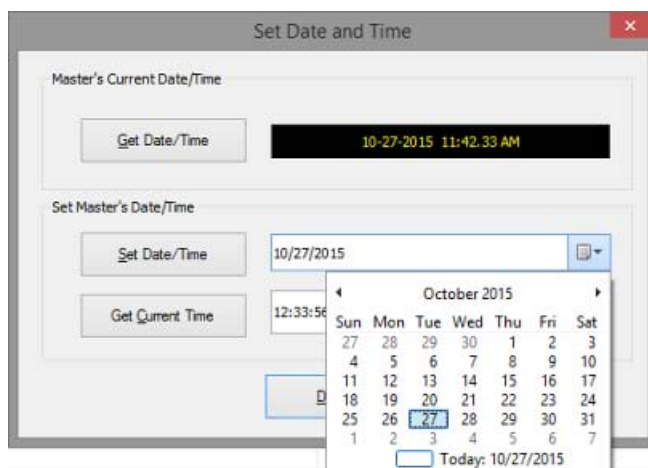

FIG. 31 Set Date and Time dialog - Calendar
2. To change the *Date* setting, click the Edit icon in the *Set Date/Time* field to open a calendar and select the desired date (FIG. 31):